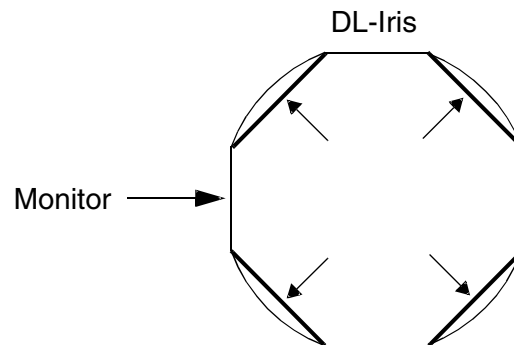

Fig. 8
- Open the collimator leaves fully and check whether the leaves are just visible centrically along the edge of the blanking circle (Fig. 8).